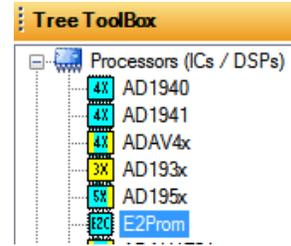

Figure 62. E2Prom IC Selection in SigmaStudio
1. Add an **E2Prom** block to the project space of the **Hardware Configuration** tab. From the **Processors (ICs / DSPs)** folder, click **E2Prom** (see Figure 62) and drag it into the project space to the right of the toolbox.